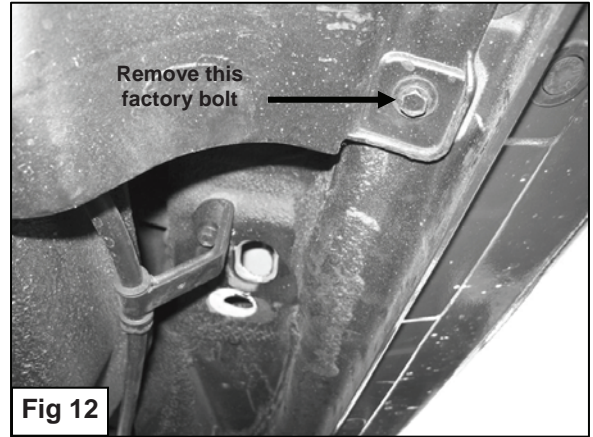

Fig 12
15. Remove a factory bolt located in the side panel by the front of the oval shape hole (**Figure 12**). **NOTE:** You will be replacing this bolt with the included 6mm bolt.